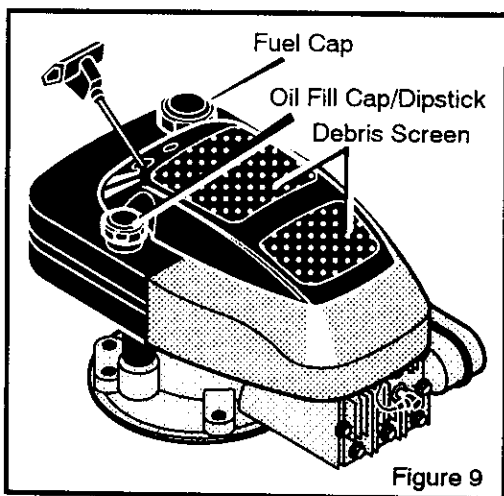

Figure 9
2. Remove the oil fill cap/dipstick shown in Figure 9.
1. Before each use, remove debris from the **debris screen** shown in Figure 9. Debris can cause the engine to overheat. Wipe the **debris screen** with a cloth or paper towel.